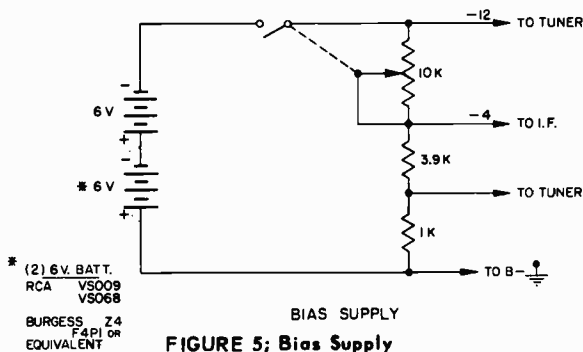

FIGURE 5; Bias Supply
5. BIAS SUPPLY. (Source of substitute bias voltage). Voltages required: -12 volts to tuner and -4 volts to IF stages during IF alignment. For RF alignment, use -1 volt bias to tuner and -4 volts to IF stages. Battery bias supply shown in figure 5.